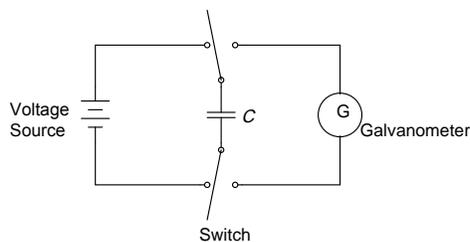

Figure 2: circuit with one capacitor
2. Assemble the circuit shown in figure 2 involving the voltage source, double pole-double throw switch, galvanometer and the known standard capacitor. On your circuit board, be sure to connect red to red and black to black.